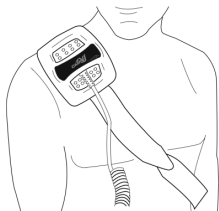

Figure 4
7. Longer strap should fall down the back, and the shorter strap and cord should fall down the front. (Figure 4)
8. Bring the longer strap around the front of the torso, and attach to the short strap making sure the unit is secured over the fracture site. (Figure 4)